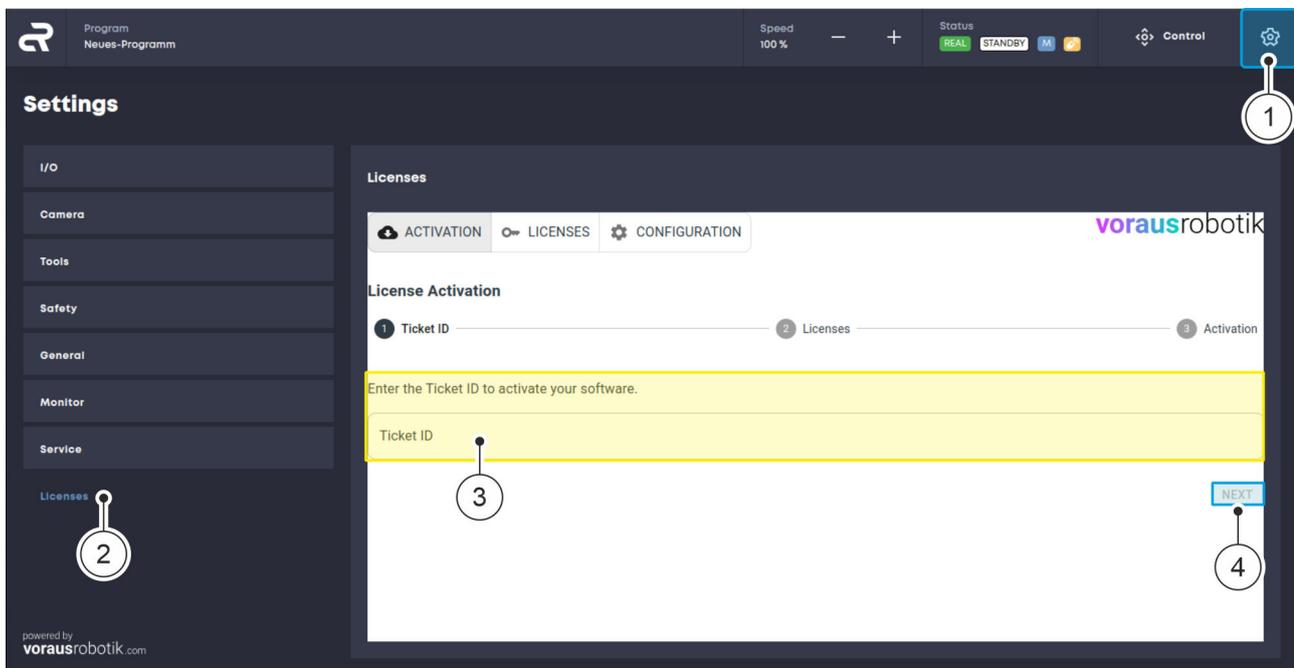

Fig. 48 Activating a software license
01. In the navigation bar, click on the gear icon Fig. 48 / ① to open the 'Settings' menu.
02. In the 'Settings' menu, click the 'Licences' button on the left-hand tab to open the license settings window Fig. 48 / ②.
03. In the 'ACTIVATION' tab, enter the ticket ID of the purchased license Fig. 48 / ③ and confirm with 'NEXT' Fig. 48 / ④.